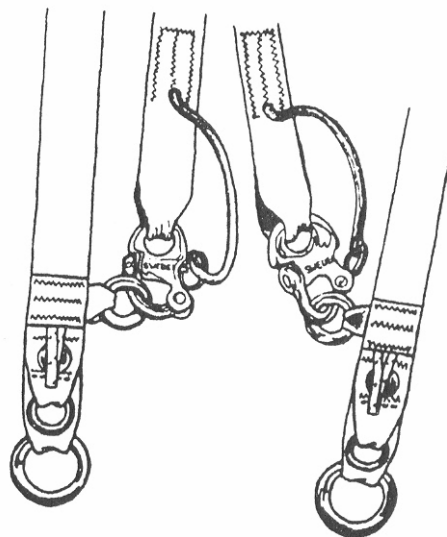

Figure 7
Step 10. Attach each end of the RSL to the RSL rings on the risers with the snap shackles. (see Figure 7)